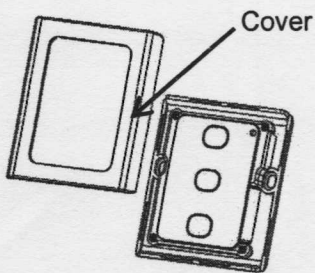

Figure 1
1. Open the cover of wireless wall switch (Fig.1)